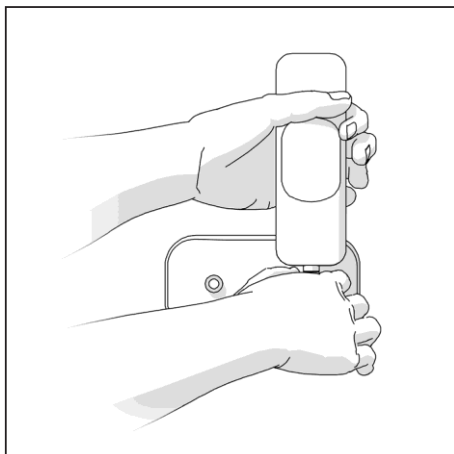

Figure 1.
Adjust the antenna to preferable direction or orientation, then mount the antennas SMA(M) connector onto the SMA(F) connector of the device. (See figure 1)